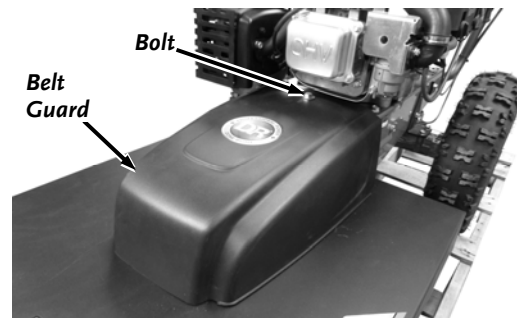

Figure 21
1. Remove the Belt Guard by unscrewing the Bolt using a 9/16" Wrench (**Figure 21**).